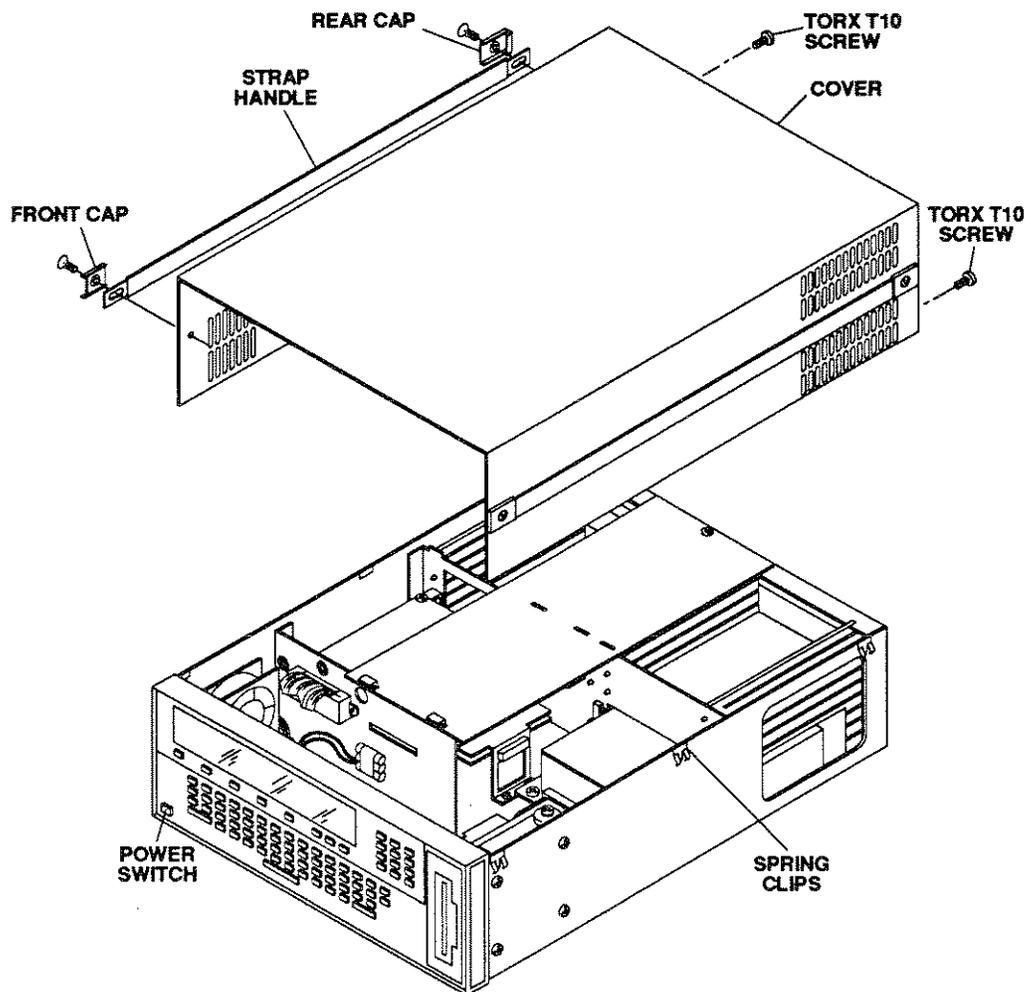

Figure 8-3. Remove and Replace Cover
2. Remove both screws, then the front cap, rear cap, and strap handle from both sides of the cover (see Figure 8-3).
1. Remove the cover (see Figure 8-3).
2. Remove the cover (see Figure 8-3) and brace (see Figure 8-4).
1. Remove the cover (see Figure 8-3) and brace (see Figure 8-4).